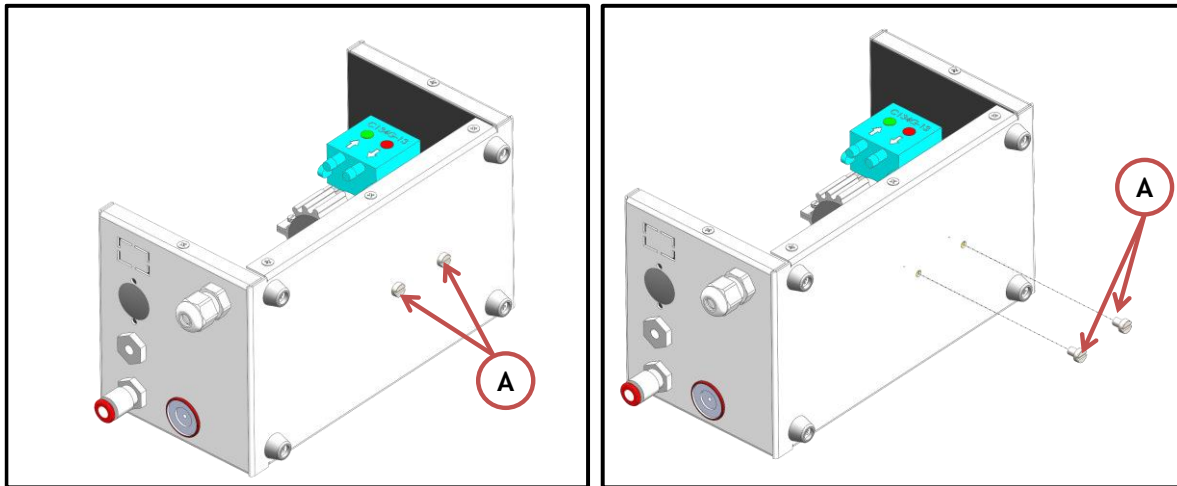

Figure 60. Screws on the bottom panel.
3. Use a screwdriver for loosening the slotted head screws (M4x5, A in Figure 60) on the OKO-AP-3L bottom panel.